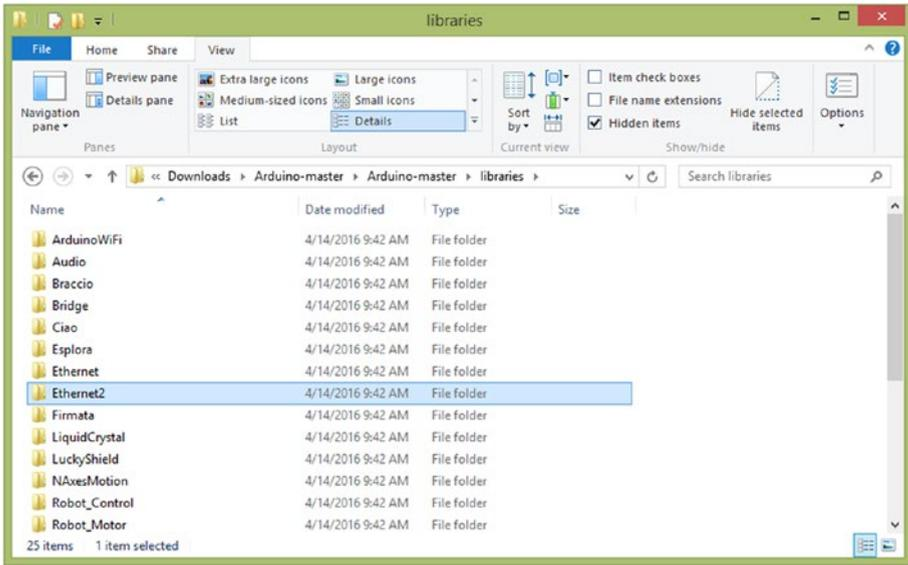

Figure 2-15. Finding the Ethernet2 library
2. Extract the zip file and navigate to the libraries folder. You can see a folder named Ethernet2 (Figure 2-15). Now copy the Ethernet2 folder to Arduino IDE's libraries folder. Finally, restart the Arduino IDE.